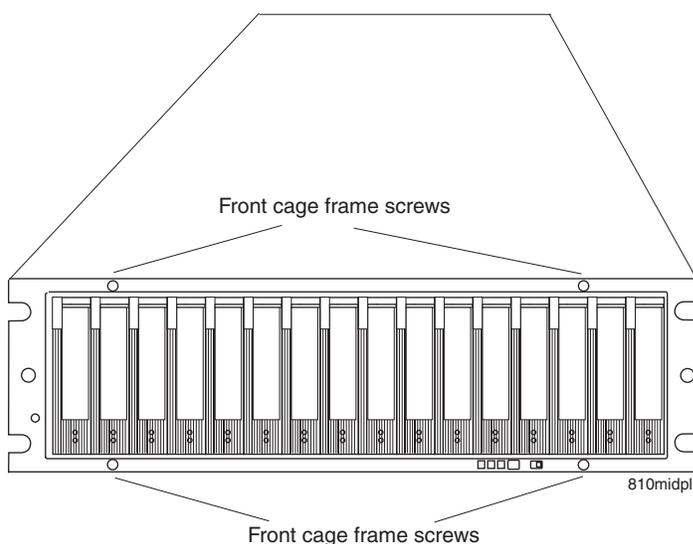

Figure 39. Front cage frame screw locations
10. Use a #1 Phillips screwdriver to loosen the four front cage frame screws on the midplane, as shown in Figure 39.
17. Tighten the four front cage frame screws. See Figure 39 on page 88.